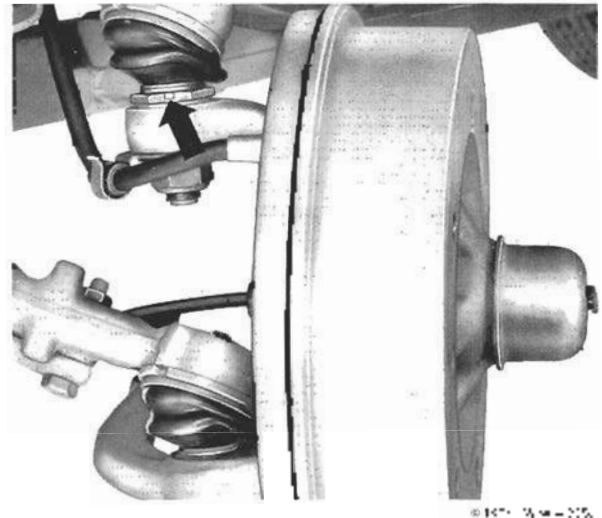

Fig. 6-6. The notch of the eccentric camber adjusting bushing.
- Position the eccentric camber adjusting bushing so that its notch points forward as shown in Fig. 6-6.